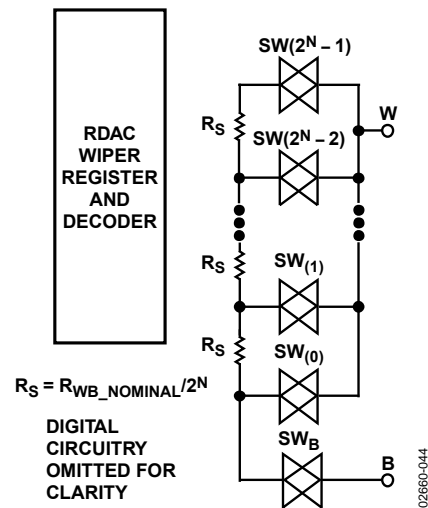

Figure 32. Equivalent RDAC Structure
The RDAC contains multiple strings of equal resistor segments with an array of analog switches that acts as the wiper connection. The number of positions is the resolution of the device. The ADN2850 has 1024 connection points, allowing it to provide better than 0.1% setability resolution. Figure 32 shows an equivalent structure of the connections among the three terminals of the RDAC. The SWB is always on, while the switches, SW(0) to SW(2N - 1), are on one at a time, depending on the resistance position decoded from the data bits. Because the switch is not ideal, there is a 30  $\Omega$  wiper resistance, RW. Wiper resistance is a function of supply voltage and temperature. The lower the supply voltage or the higher the temperature, the higher the resulting wiper resistance. Users should be aware of the wiper resistance dynamics, if accurate prediction of the output resistance is needed.
The 10-bit data-word in the RDAC latch is decoded to select one of the 1024 possible settings. The following description provides the calculation of resistance,  $R_{WB}$ , at different codes of a 25 k $\Omega$  part. The first connection of the wiper starts at Terminal B for Data 0x000.  $R_{WB}(0)$  is 30  $\Omega$  because of the wiper resistance, and it is independent of the nominal resistance. The second connection is the first tap point where  $R_{WB}(1)$  becomes 24.4  $\Omega$  + 30  $\Omega$  = 54.4  $\Omega$  for Data 0x001. The third connection is the next tap point representing  $R_{WB}(2)$  = 48.8  $\Omega$  + 30  $\Omega$  = 78.8  $\Omega$  for Data 0x002, and so on. Each LSB data value increase moves the wiper up the resistor ladder until the last tap point is reached at  $R_{WB}(1023)$  = 25006  $\Omega$ . See Figure 32 for a simplified diagram of the equivalent RDAC circuit.